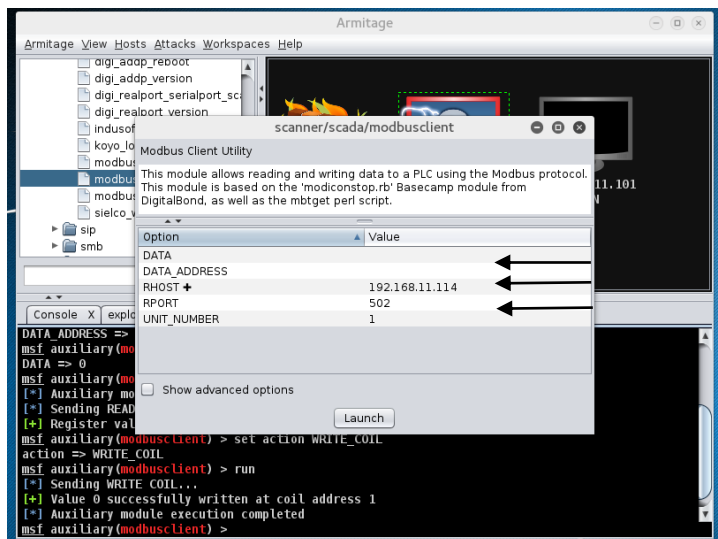

Fig 22
7. The Modbus Client Utility will now allow you to select the **Data, 1 or 0**. Make sure the **RHOST** is set to the IP address of the PLC device discovered in the **netstat** step. In the case for this lab, the IP 192.168.11.101 is used. FIG 22